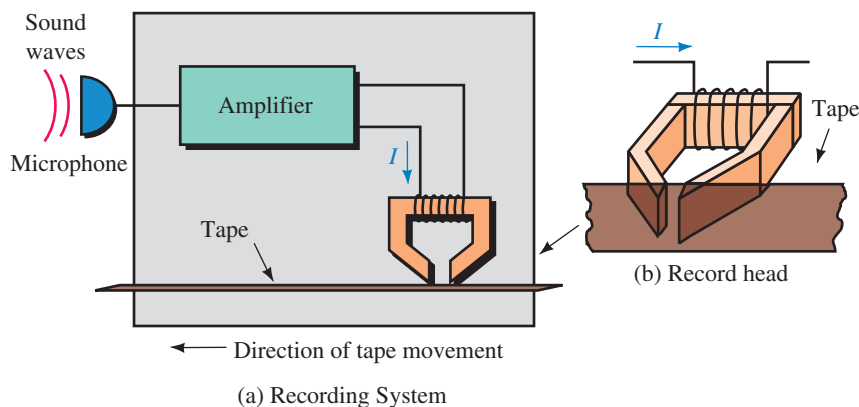

FIGURE 12–10 The recording head of a tape recorder is a magnetic circuit.
5. For Figures 12–5 and 12–6, if the direction of current is reversed, sketch what the fields look like.
6. If the core shown in Figure 12–7 is plastic, sketch what the field will look like.
8. For Figure 12–9, if A_1 is $2\text{ cm} \times 2.5\text{ cm}$, B_1 is 0.5 T , and $B_2 = 0.25\text{ T}$, what is A_2 ?
Most practical applications of magnetism use magnetic structures to guide and shape magnetic fields by providing a well-defined path for flux. Such structures are called **magnetic circuits**. Magnetic circuits are found in motors, generators, computer disk drives, tape recorders, and so on. The speaker of Figure 12–4 illustrates the concept. It uses a powerful magnet to create flux and an iron circuit to guide the flux to the air gap to provide the intense field required by the voice coil. Note how effectively it does its job; almost the entire flux produced by the magnet is confined to the iron path with little leakage into the air.
A second example is shown in Figures 12–10 and 12–11. Tape recorders, VCRs, and computer disk drives all store information magnetically on iron oxide coated surfaces for later retrieval and use. The basic tape recorder scheme is shown symbolically in Figure 12–10. Sound picked up by a microphone is converted to an electrical signal, amplified, and the output applied to the record head. The record head is a small magnetic circuit. Current from the amplifier passes through its coil, creating a magnetic field that magnetizes the moving tape. The magnetized patterns on the tape correspond to the original sound input.
During playback the magnetized tape is passed by a playback head, as shown in Figure 12–11(a). Voltages induced in the playback coil are amplified and applied to a speaker. The speaker (b) utilizes a flexible cone to reproduce sound. A coil of fine wire attached at the apex of this cone is placed in the field of the speaker air gap. Current from the amplifier passes through this coil, creating a varying field that interacts with the fixed field of